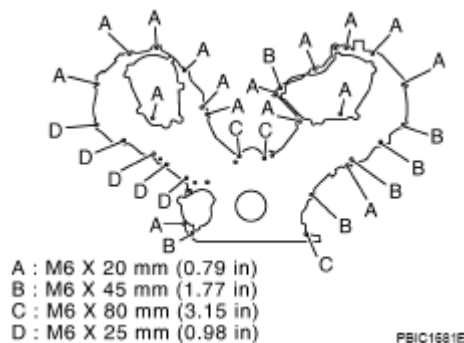

Fig. 80: Identifying Four Type Mounting Bolts
- e. After all mounting bolts are tightened, retighten them in numerical order as shown in **Fig. 80**.